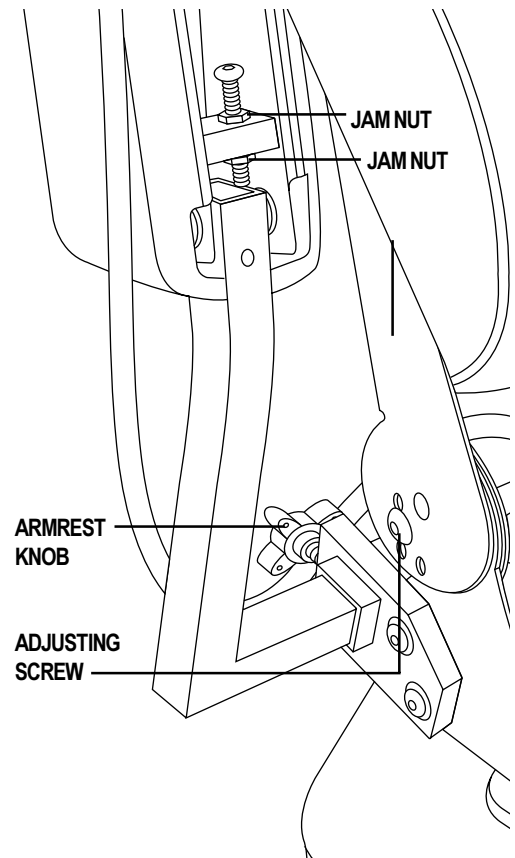

Figure 19. Seatback and Armrest Adjustments
1. Remove the adjusting screws on both seat hinges. See figure 19.
1. Locate the two armrest knobs on each side of the armrest receiver bracket. See figure 19.
2. Loosen the jam nuts. See figure 19.
4. Turn the adjusting screw clockwise to raise the front of the armrest, or turn the adjusting screw counterclockwise to lower the front of the armrest. See figure 19.